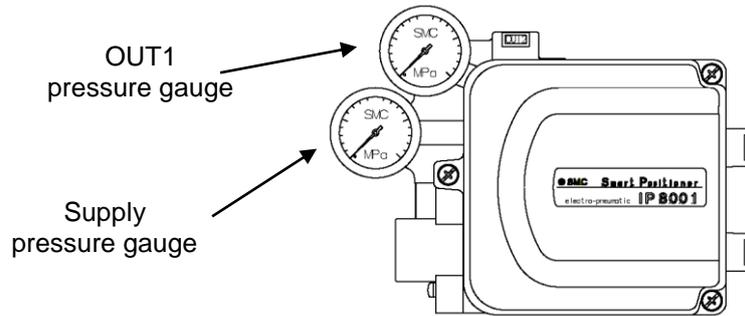

Fig. 16
*5: A Description of pressure gauges mounted on the positioner are as shown in Fig. 16.